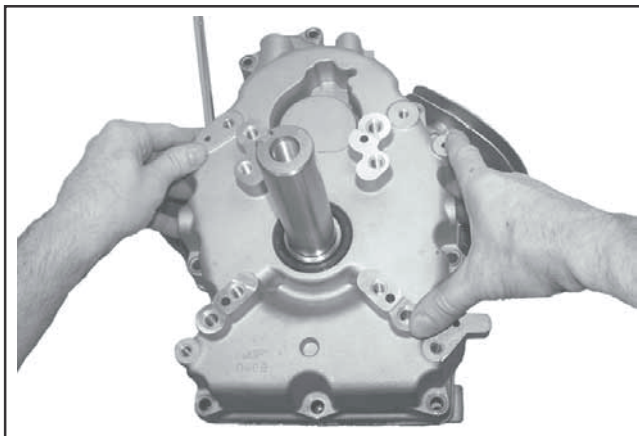

Figure 10-29. Installing Closure Plate.
5. Orient the flat of the oil pump gear to match the position of the flat on the camshaft. Then install the closure plate to the crankcase. Carefully seat the camshaft and the crankshaft into their mating bearings. Rotate the crankshaft slightly to help the oil pump and governor gears mesh. See Figure 10-29.